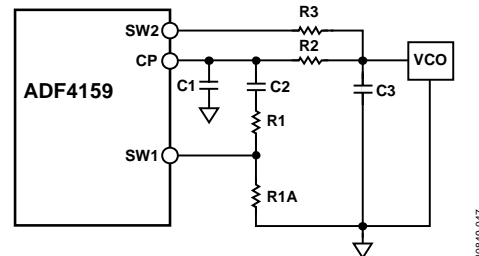

Figure 52. Fast Lock Loop Filter Topology 1
To further enhance stability and mitigate frequency overshoot during a frequency change in wide bandwidth mode, Resistor R3 is connected (see Figure 52). During fast lock, the SW1 pin is shorted to ground, and the SW2 pin is connected to CP (set Bits DB[20:19] in Register R4 to 01 for fast lock divider).
- Divide the damping resistor (R1) into two values (R1 and R1A) that have a ratio of 1:3 (see Figure 52).